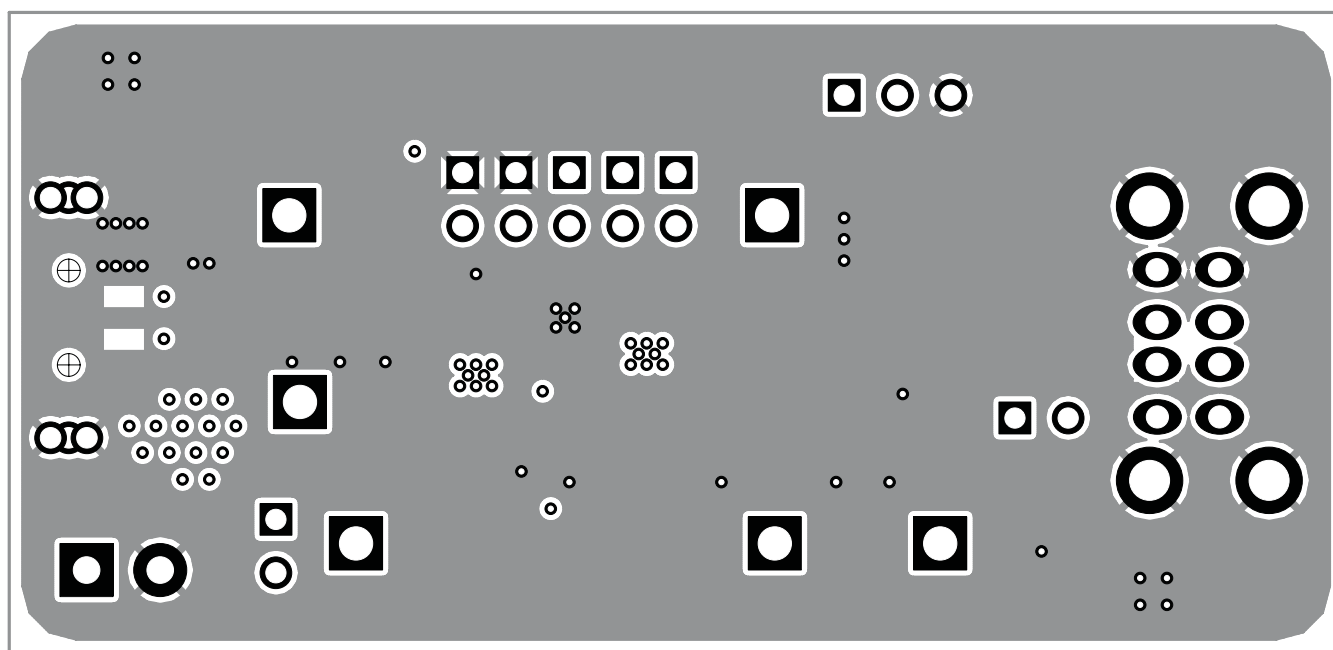
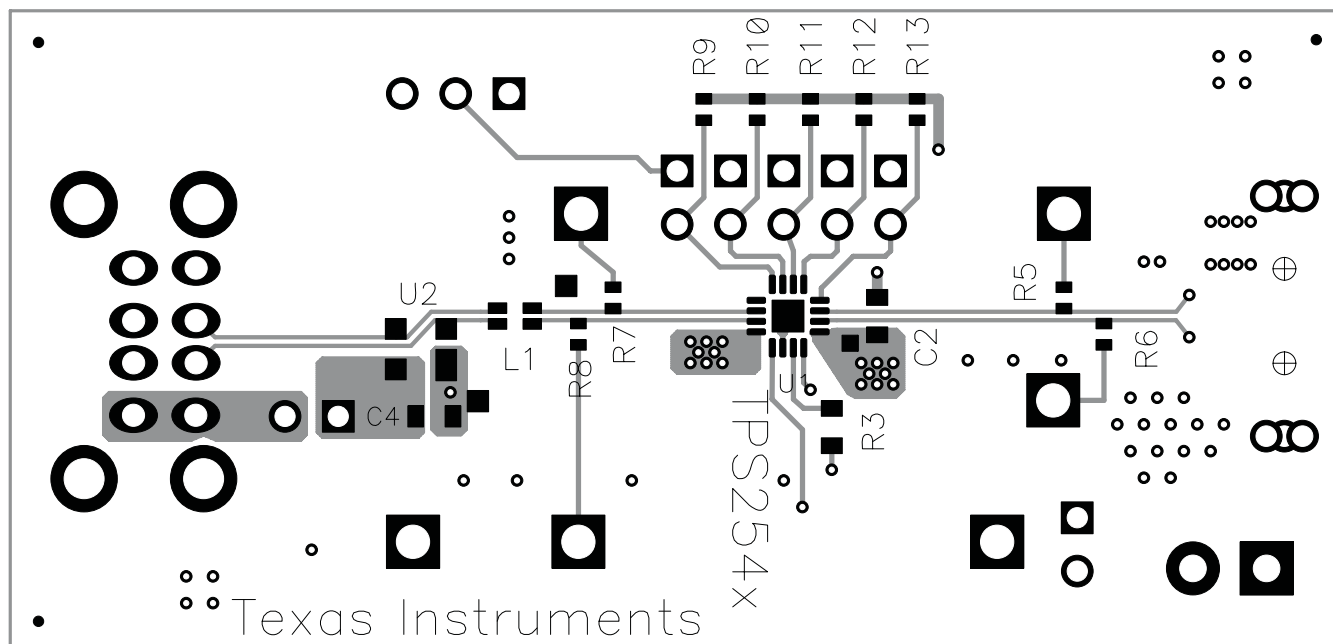

Figure 5. Layer Three Routing
Figure 6. Bottom Side Placement and Routing
- **DP-OUT/DM-OUT, DP-IN/DM-IN traces:** Route these traces as controlled impedance differential pairs per the USB-2.0 specification. Minimize the use of vias in the high speed data lines. Figure 6 provides a good signal routing example for the high speed data traces. In this example, the data pairs are routed as edge-coupled microstrips with nominal differential impedance of 90 ohms. The reference plane is tied to GND and is shown in Figure 5. Ensure that the reference plane is void of cuts or splits above the differential pairs to prevent impedance discontinuities.